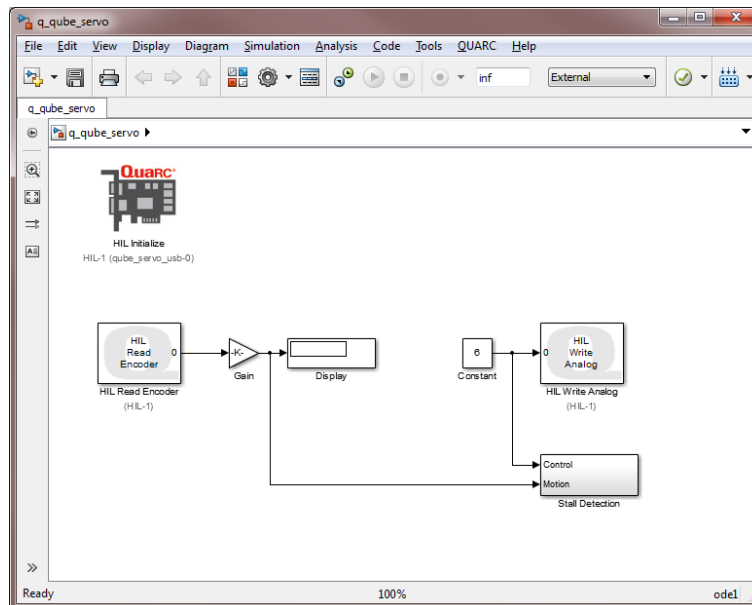
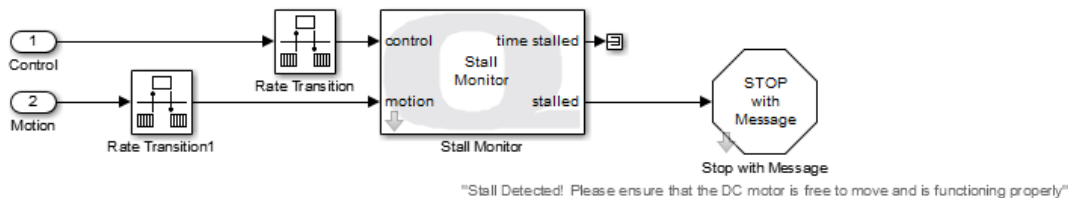

Figure 1.3: Simulink model used with QUARC to drive motor and read angle on QUBE-Servo
Figure 1.6: HIL Stall Monitor
In this lab, we will make a **Simulink®** model using **QUARC®** blocks to drive the DC motor and measure its corresponding angle - similarly as shown in Figure 1.3.
2. Connect the HIL Read Encoder to a Gain and Display block similar to shown in Figure 1.3 (without the HIL Write Analog block). In the Library Browser, you can find the Display block from the Simulink | Sinks and the Gain block from Simulink | Math Operations.
- Add the *Constant* block found in the Simulink | Source folder to your Simulink model. Connect the Constant and HIL Write Analog blocks together, as shown in Figure 1.3.
We recommend including a Stall Monitor block in the main model or a subsystem as shown in Figure 1.3 and Figure 1.6. This block will monitor the applied voltage and speed of the DC motor to ensure that if the motor is motionless for more than 20 s with an applied voltage of over 5V, the simulation is halted to prevent damage to the motor.